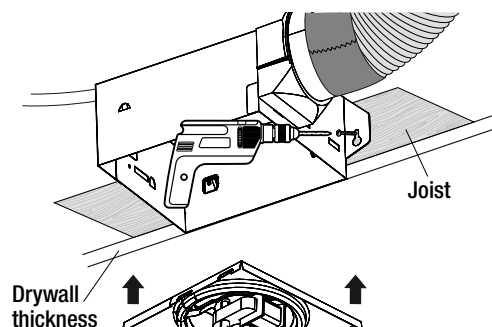

Fig. 15
- Secure the ventilation fan to the ceiling joist in a desired location using the external mounting tabs. The fan housing should be installed below the joist surface such that it is flush with the ceiling surface once it is installed. See figure 15.